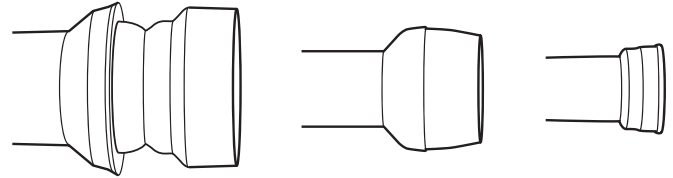

Fig. 14
**Cause:** The temperature was set too high, the heating time was too long, or both. See Fig. 14.